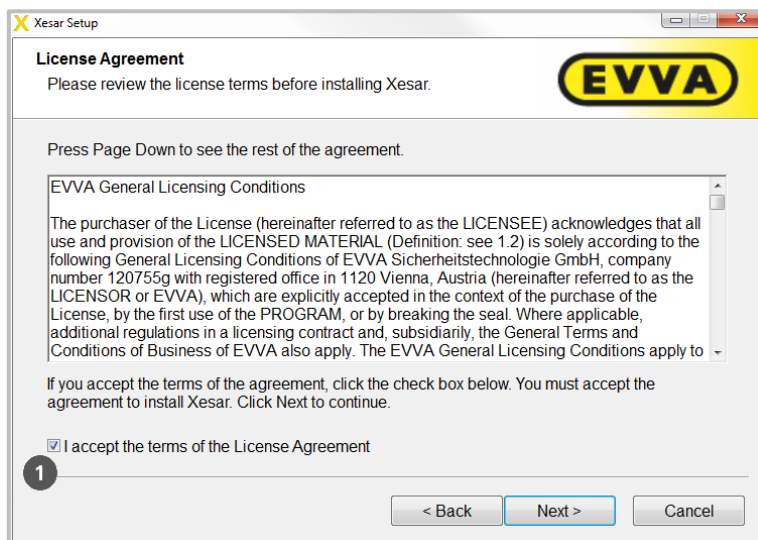

Figure 33: Xesar installation — licence agreement
Accept the terms and conditions to be able to install the software ❶ (Figure 33: Xesar installation — licence agreement). Then click **Continue**.